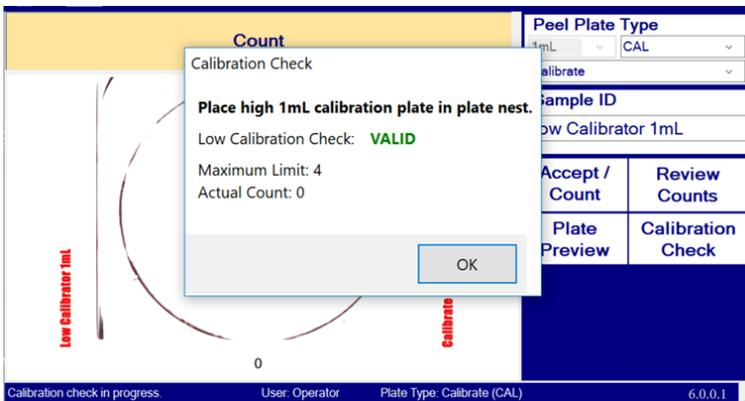

Figure 9
- If **VALID**, remove the Low Calibrator Plate and replace with the High Calibrator plate and press OK. (Figure 9)
*Note that Figure 9 has only the **Count** tab appearing at top of screen because the logged in User is an Operator. If logged in as an administrator, **Count**, **Config**, **Image**, **Colonies**, and **Admin** tabs will appear at the top of screen and the open tab appears with a dark blue shaded background.